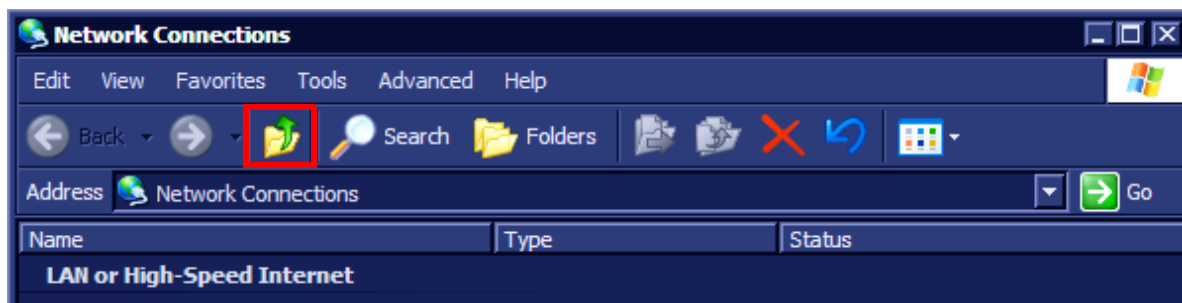

Figure 3-44 Network Connections showing highlighted "Up One Level" button
- 3.) The Network Connection screen opens (Figure 3-44). Click the "Up" button to open the Windows Control Panel.